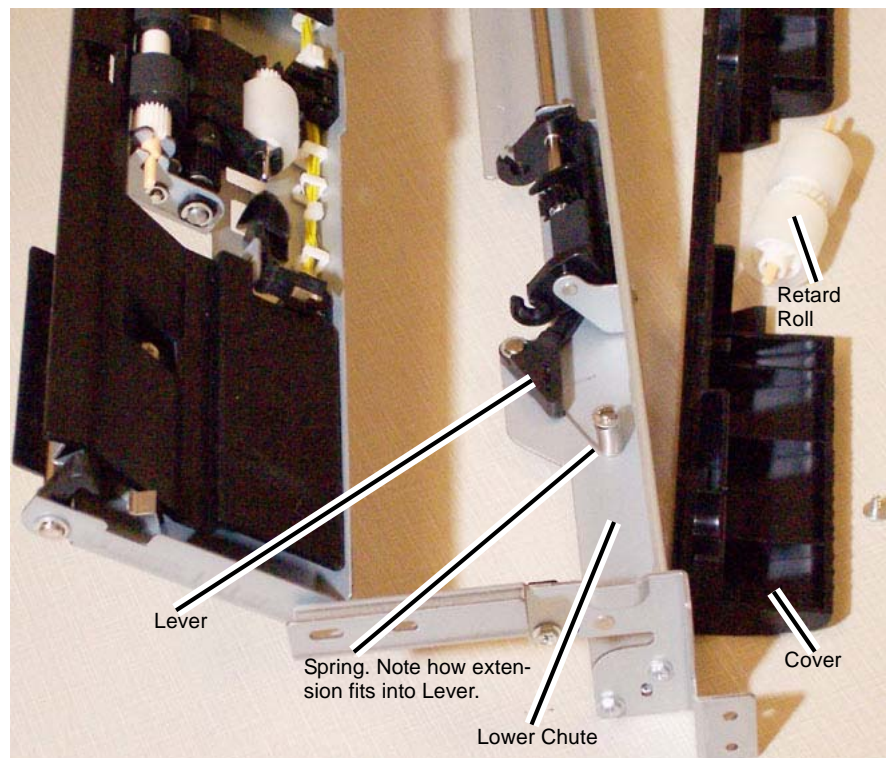

Figure 1 Removing the Retard Lever Spring
6. Remove the plastic Cover by removing (4) screws.
10. Remove the Spring (Figure 1).